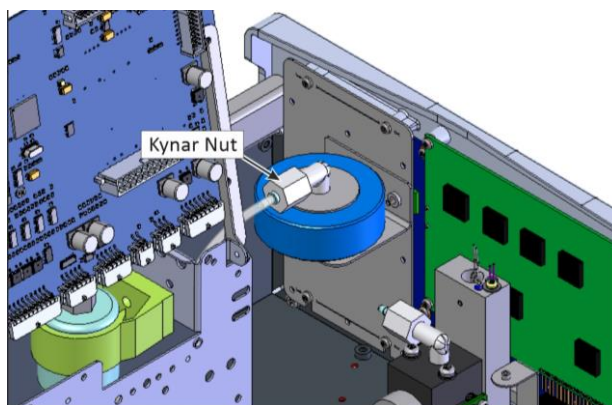

Figure 127 – Remove Kynar Nut
3. Refer to Figure 127. Remove the Kynar nut from the fitting.